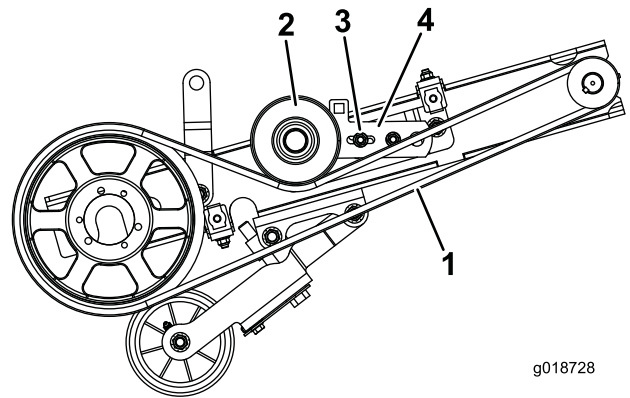

Figure 24
- Remove the nut and bolt securing the idler pulley bracket (bolt in slotted hole in bracket) to the tension-adjusting bracket (Figure 24).
4. Remove the lower belt guard and reel drive belt (Figure 24).